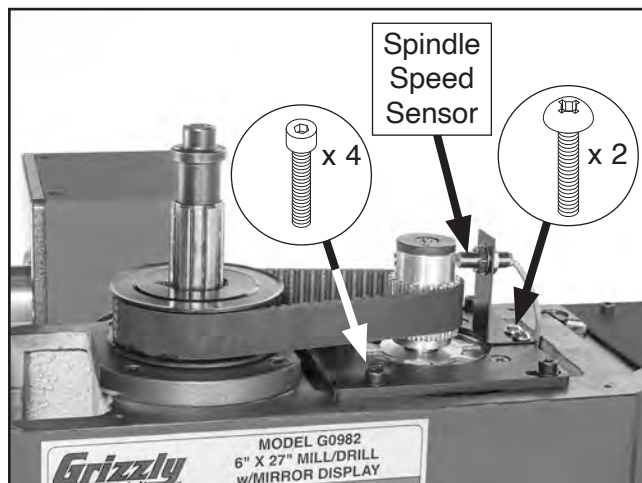

Figure 59. Location of belt tension components.
5. Remove (2) Phillips head screws shown in **Figure 59** to remove spindle speed sensor from motor mount.
6. Loosen (4) cap screws shown in **Figure 59** to push motor pulley towards spindle pulley to release belt tension.